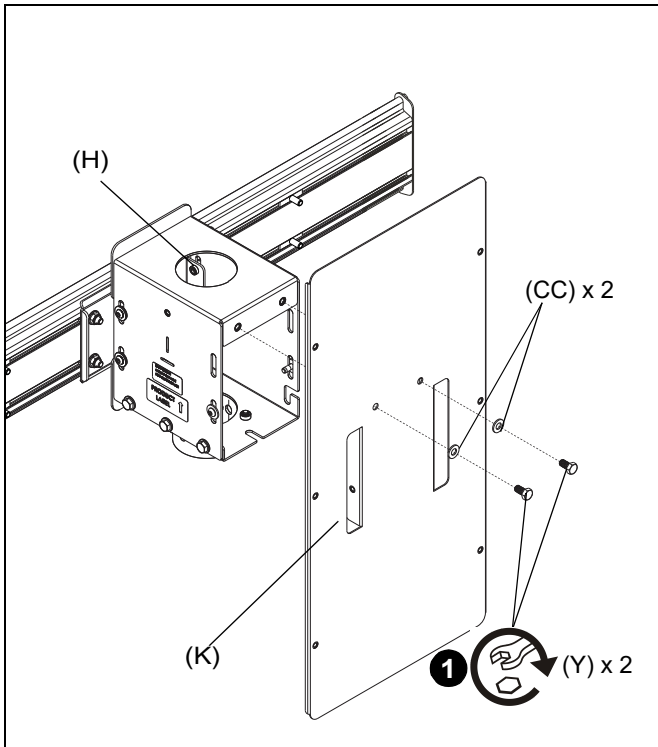

Figure 9
1. Use two 5/16 x 5/8" hex head bolts (Y) and two 5/16" washers (CC) to secure center wind shield (K) to back of mount assembly (H). (See Figure 9)